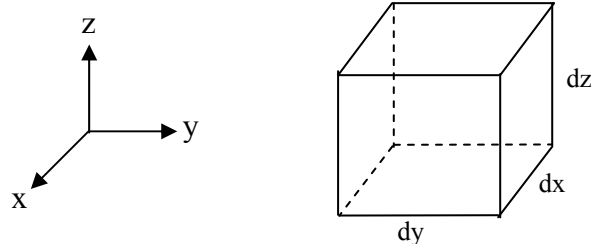

Figure 1
1. (a) A state of stress will be set up in an elastic body under the action of some system of external forces. Show all the stress components (in Cartesian coordinate system) acting on it using the infinitesimal volume $dx dy dz$ shown Figure 1.
Derive the equilibrium equation in x -direction for the infinitesimal volume shown in Figure 1 above. It is given that body forces R_x , R_y and R_z act on the infinitesimal volume in x , y and z -direction respectively.